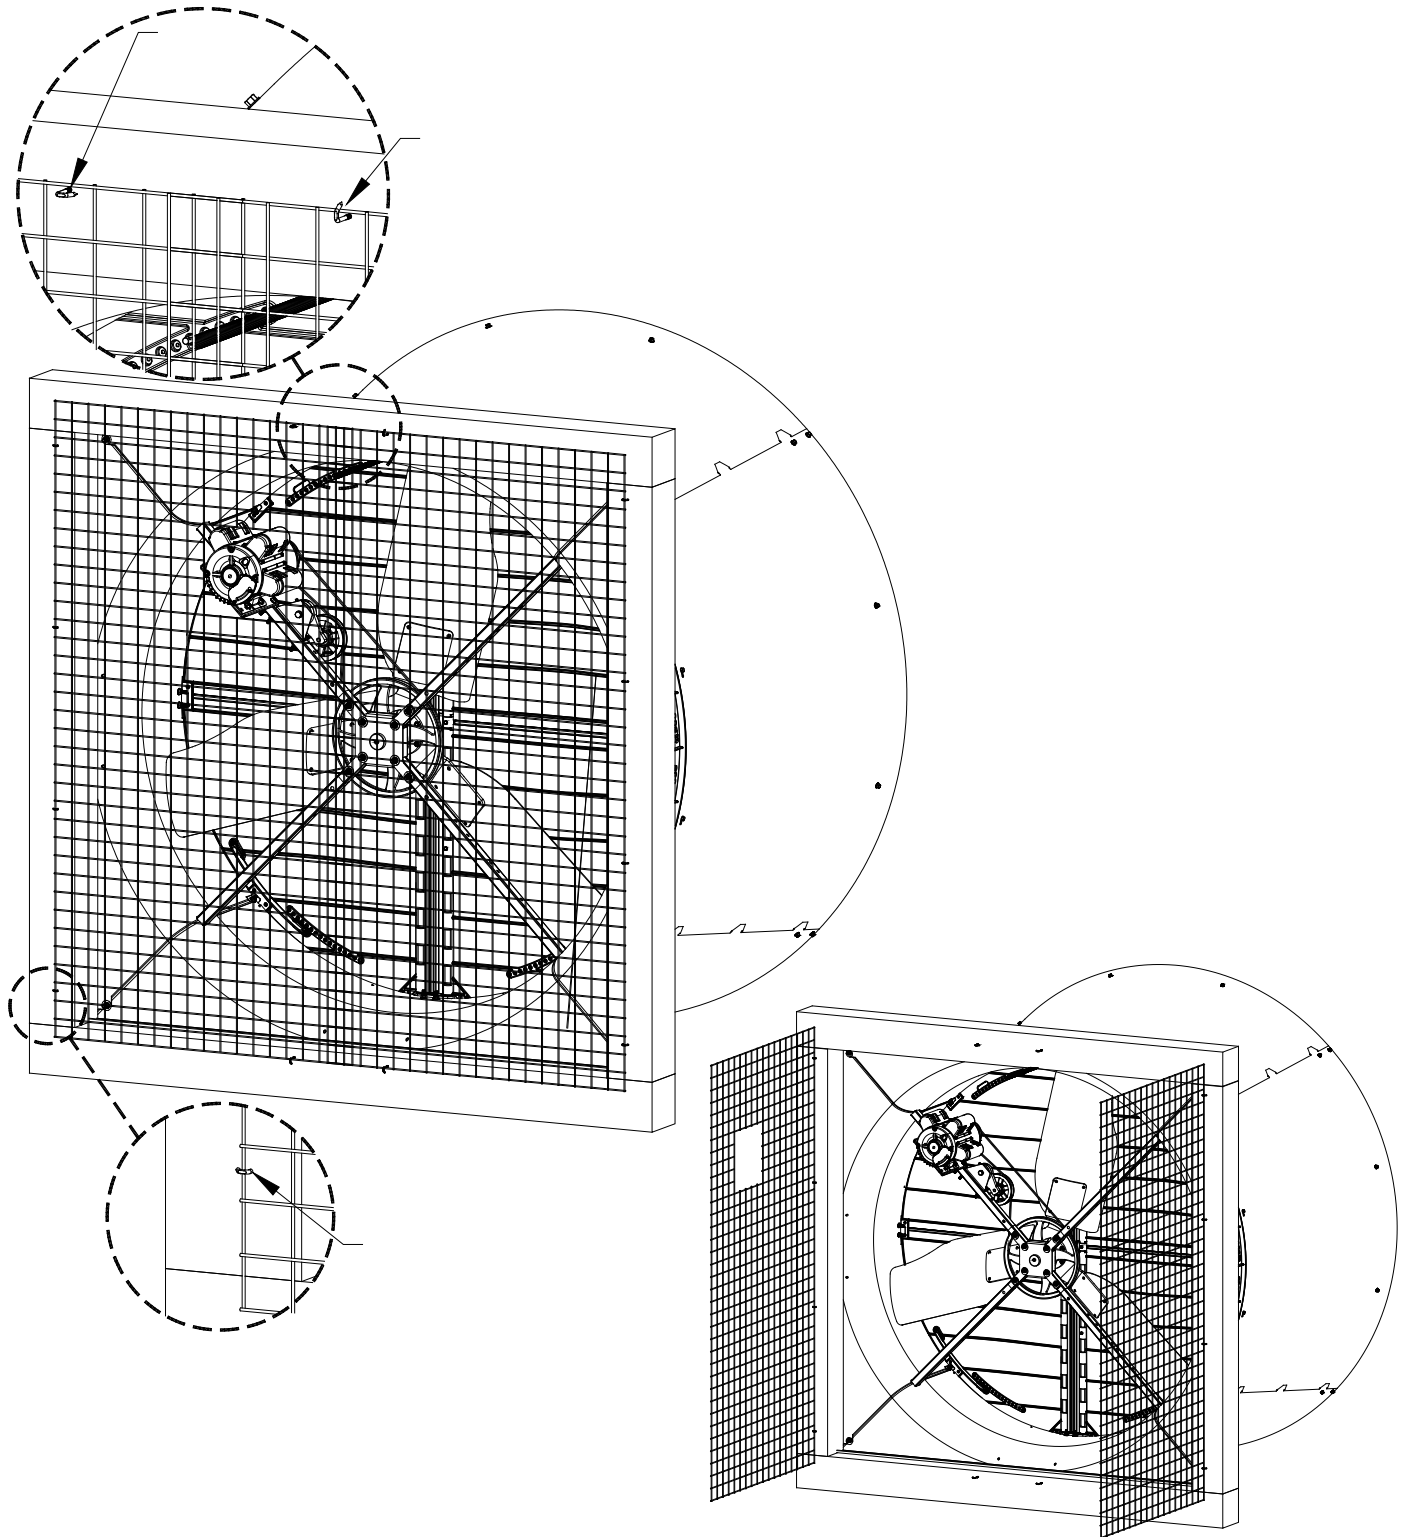

Figure 31C
Place Inlet Guard Half [G] with cut-out against left framing with cut-out over motor. The left edge of guard should overhang the framing by  $2\frac{3}{8}$ " and the top of the guard should overhang the top framing by  $3\frac{3}{8}$ " and fasten in place using (4) J-Nails [A3] along the left side of guard. *See Figure 31B.* Place other Inlet Guard Half [G] over the right framing, right edge of guard should overhang the framing by  $2\frac{3}{8}$ " and the top of the guard should overhang the top framing by  $3\frac{3}{8}$ " and fasten in place using (4) J-Nails [A3] along right side of guard. *See Figure 31B.* Secure top and bottom of each Inlet Guard half using (1) J-Nail [A3] driven in partially to allow them to rotate and release guard when needed. *See Figure 31B.* When needed rotate the J-Nails in the top and bottom framing to release the guard and then rotate the guard halves open to access the fan components. *See Figure 31C.*